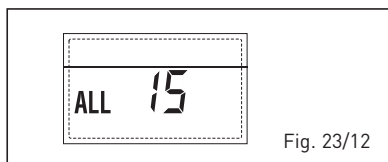

Fig. 23/12
- EXTERNAL PROBE ANOMALY "HOUSE FLASHING" (fig. 23/13)